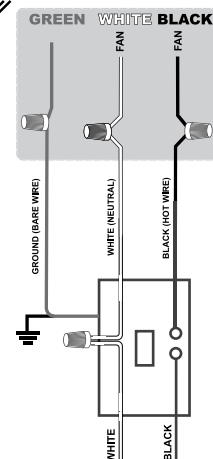

Fig. 4.2
- 4- Using connectors, attach the fan wires located inside the fan wiring compartment to the matching wires coming from the wall switch; black to black (hot); white to white (neutral). (Fig. 4.2)